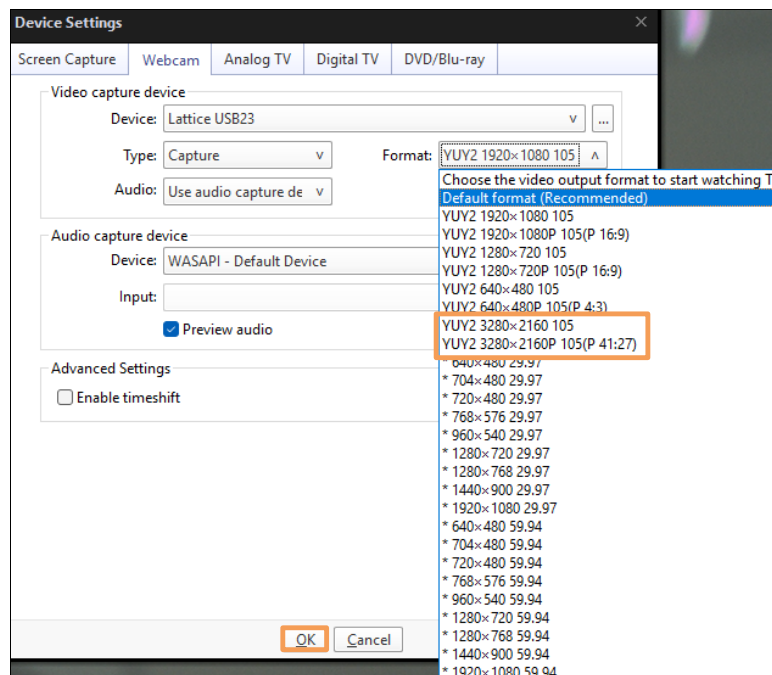

Figure 7.14. 2160p Selection in PotPlayer
3. In the Format drop-down menu shown in Figure 7.14, select the **YUY2 3280x2160** option. Then click **OK**.